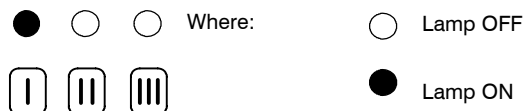

Fig. 9.9
- 3 The lamps E should give the indication as in Fig. 9.9 (reignition frequency). If not, press the reset button repeatedly to obtain it.